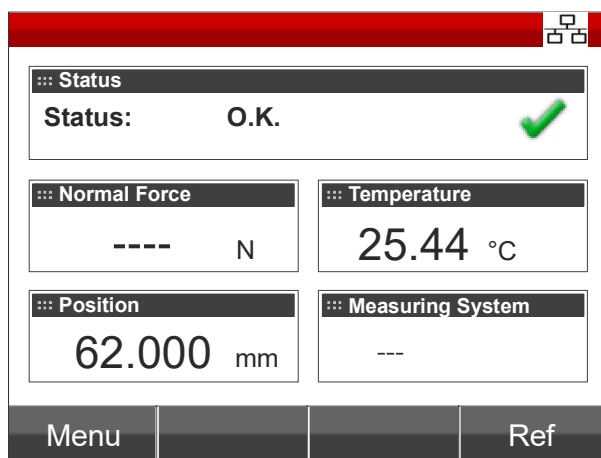

Fig. 22: MCR ready
Table 7: MCR Display (see Fig. 22)
**Table 7: MCR Display (see Fig. 22)**